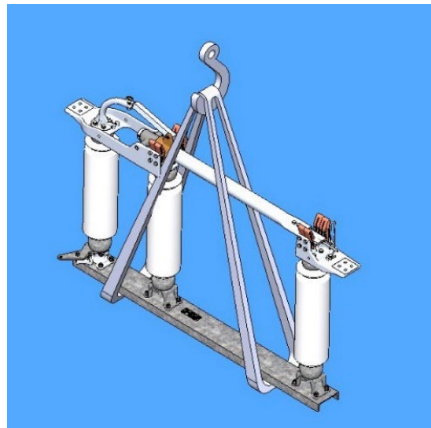

Figure 8: Sling Attachment
- 1.2.1.2. **CAUTION:** Lift fully assembled pole unit by the base only. **DO NOT** lift the pole unit by the live parts. Refer to **Figure 8**.
- 4.4. Lift the assembled switch by the switch base only. Refer to **Figure 8**.